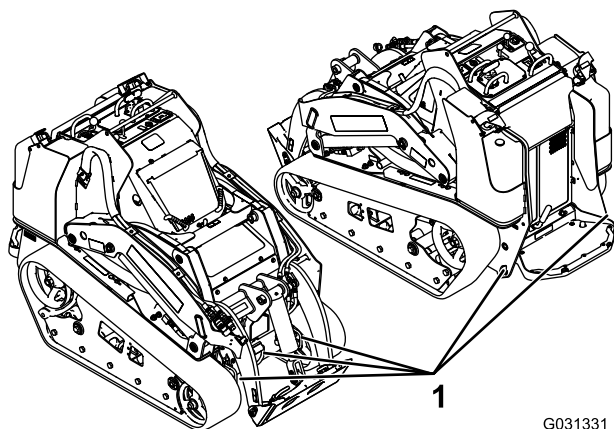

Figure 34
6. Use the metal tie-down loops on the machine to securely fasten the machine to the trailer or truck with straps, chains, cable, or ropes (Figure 34).
You can lift the machine using the tie-down/lift loops as lift points indicated in Figure 34.